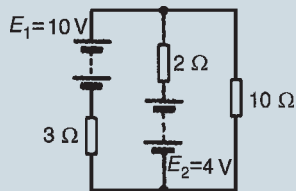
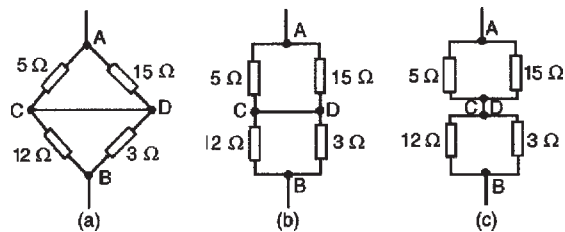

Figure 15.27
Figure 15.35
3. Use the superposition theorem to find the current in each branch of the network shown in Fig. 15.27.
- (viii) In Fig. 15.35(a), to find the equivalent resistance across AB the circuit may be redrawn as in Figs 15.35(b) and (c). From Fig. 15.27(c), the equivalent resistance across AB